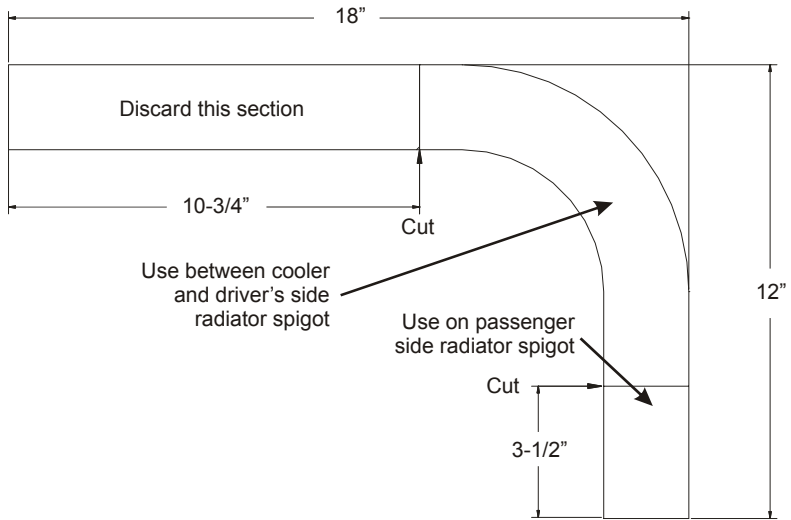

Figure 1.1
- Cut the OEM hose as shown in Figure 1.1